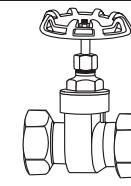

Figure 4
4. Using the compression fitting, attach the gate valve to the incoming water supply side pipe. Firmly tighten compression nut. (Figure 4)